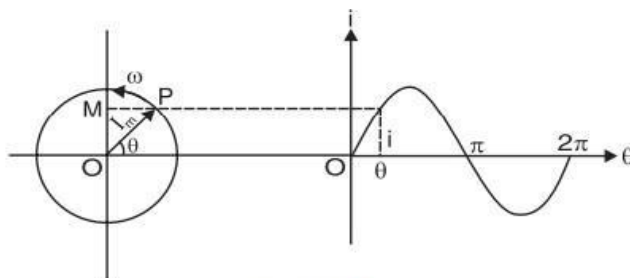

Fig. 11.47
put  $\theta = 90^\circ$  in the current equation. If we plot the projections of the phasor on the  $Y$ -axis *versus* its angular position point-by-point, a sinusoidal alternating current wave is generated as shown in Fig. 11.47. Thus the phasor represents the sine wave for every instant of time.
- (ii) The phasor representation enables us to quickly obtain the numerical values and, at the same time, have a picture before the eye of the events taking place in the circuit. Thus in the position of the phasor  $OP$  shown in Fig. 11.47, the instantaneous value is  $OM$ , the phase is  $\theta$  and frequency is  $\omega/2\pi$ .